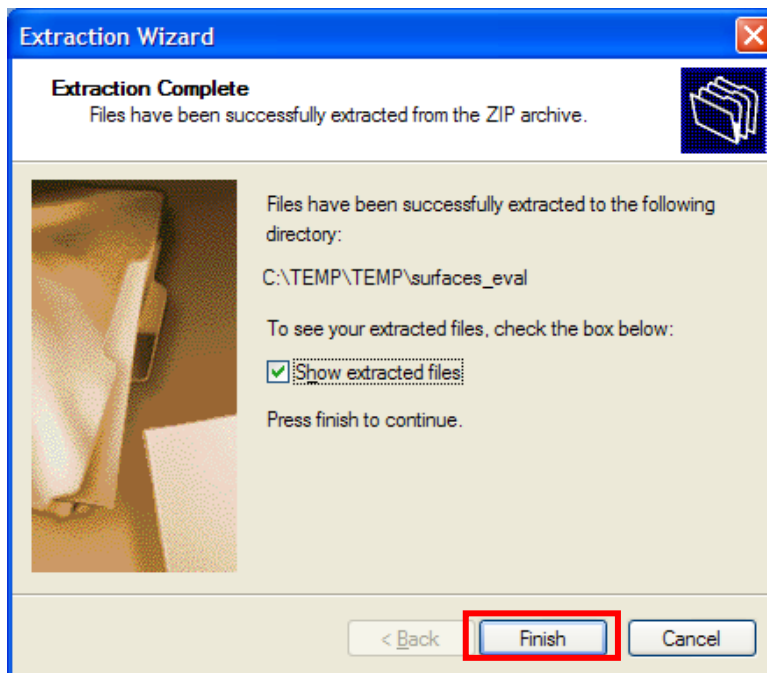

Figure 1-10: Compressed Folders Extraction Wizard page 4.
STEP 1.7 show the Compressed Folders Extraction Wizard. When the extraction completes, press the [Finish] button as shown in Figure 1-10.